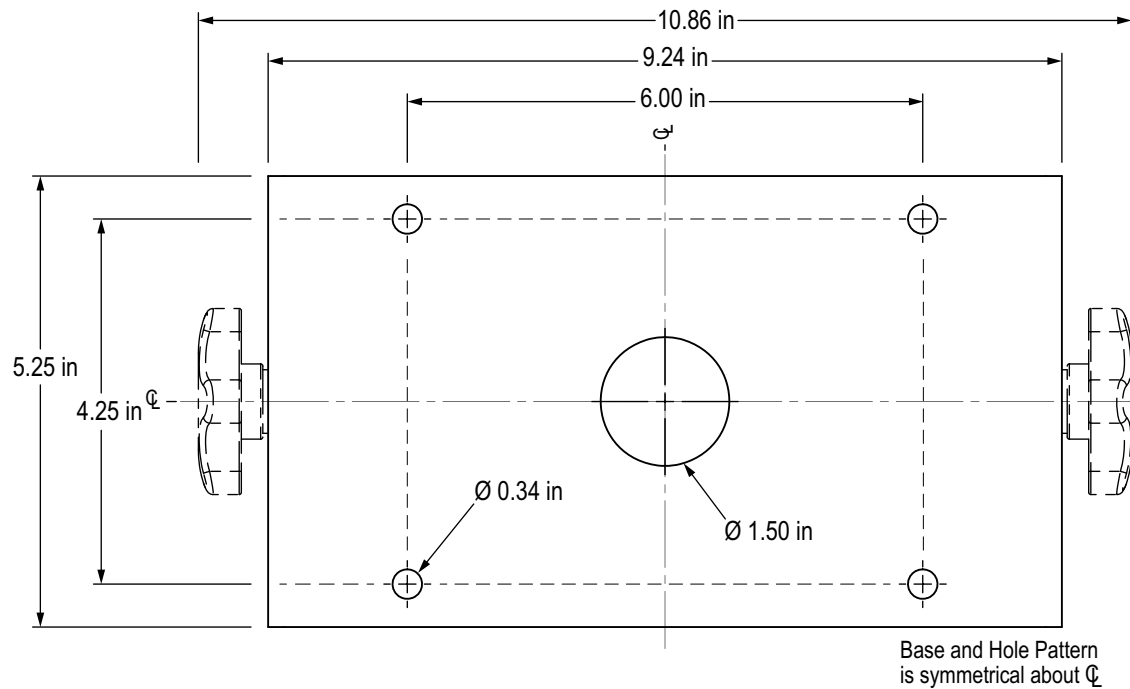

Figure 2-5. Universal Tilt Stand Hole Pattern Dimensions
1. Using the tilt stand as a template, mark the screw locations. See Figure 2-5 on page 25 for dimensions.